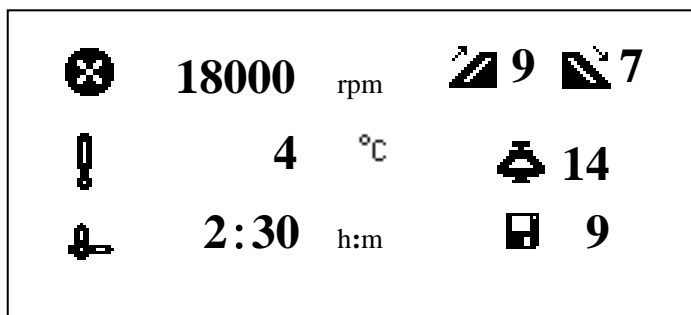

Figure 7-2 Preparation mode interface
■ This centrifuge will move to a preparing interface after self-checking, and display the running parameters of the last time. For example, the Figure 7-2 shows that the speed was set to be 18000rpm, the temperature was 4°C, the running time was 2 hours and 30 minutes, the acceleration rate was 9, the deceleration rate was 7, the rotor ID was 14, and the program group number was 9.